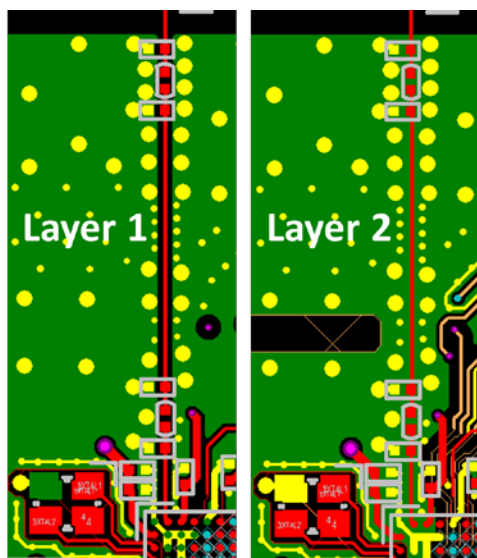

Figure 4. Gnd Via around RF trace of the AB1568 EVK daughter board
- Make sure the return path is solid and good, and the reference layer should be checked also. Refer Figure 4 for more information.